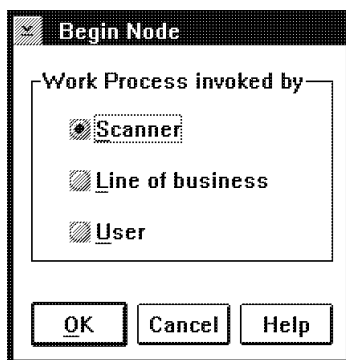

Figure 29. Begin Node Window
1. Double-click mouse button 1 on the begin node symbol in the work process diagram. As shown in Figure 29, you see the Begin Node window.